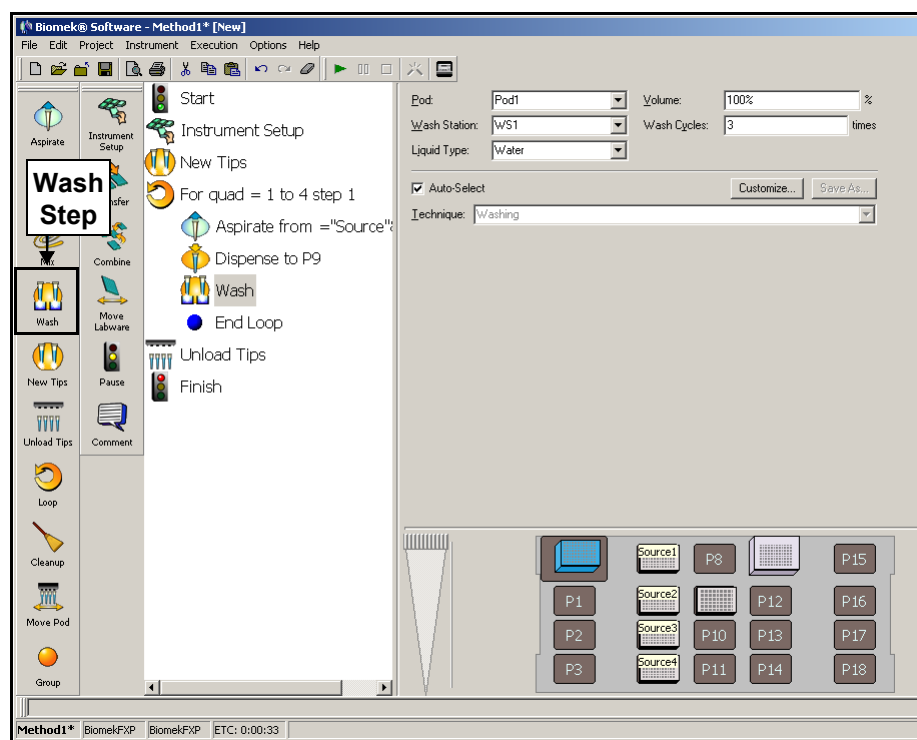

Figure 3-15. Wash tips
3. In **Wash Cycles**, enter **3**. This is the number of times that the **Volume** of wash fluid is aspirated and dispensed to clean the tips (Figure 3-15).